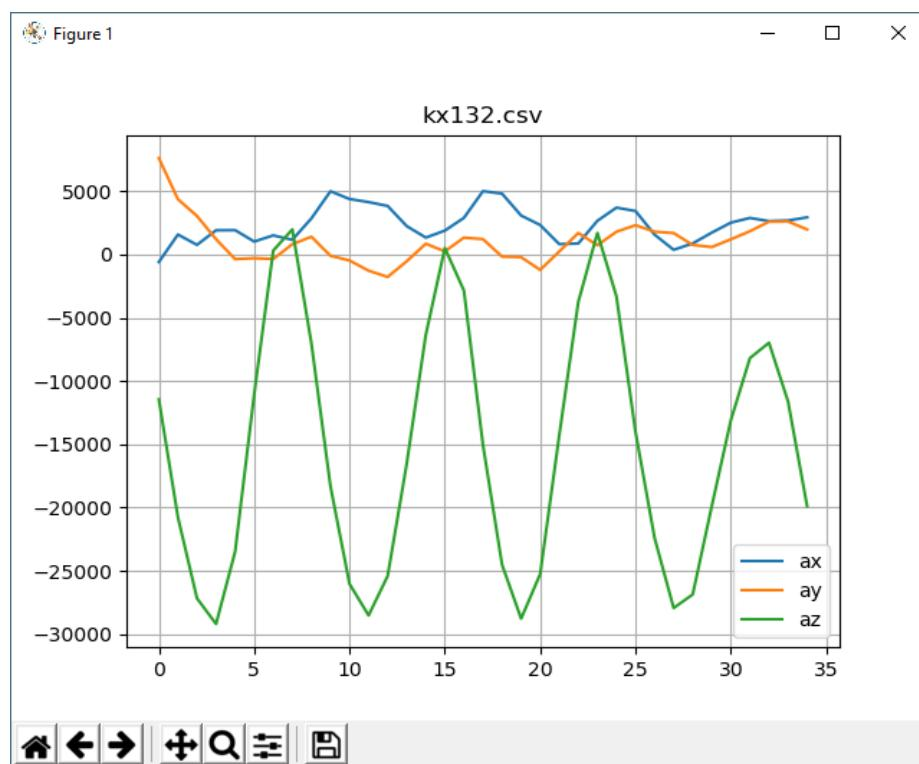

Figure 71. Recorded signals shown by the `plot.py` application
- It is possible to view the data logged with Data Logger (5.7.1) using the `plot.py` application (Figure 71). Since the `kx132.csv` output file is located in `\Documents\RoKiX\RoKiX-Python-CLI\kx132`, it can be plotted using the following command when executed from the same folder: